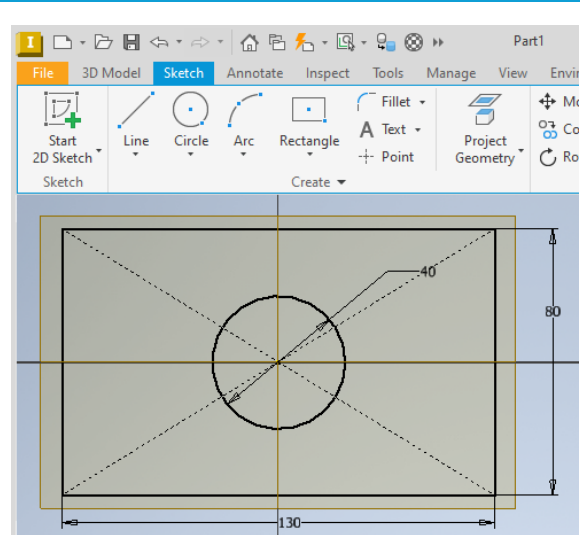

Fig. 3. Outline of the solid in: a) SolidWorks, b) Catia, c) Siemens NX, d) Inventor
- Discuss how an outline of the solid should be made on the selected plane (Fig. 3). This will be the basis for making the solid in three dimensions (3D).